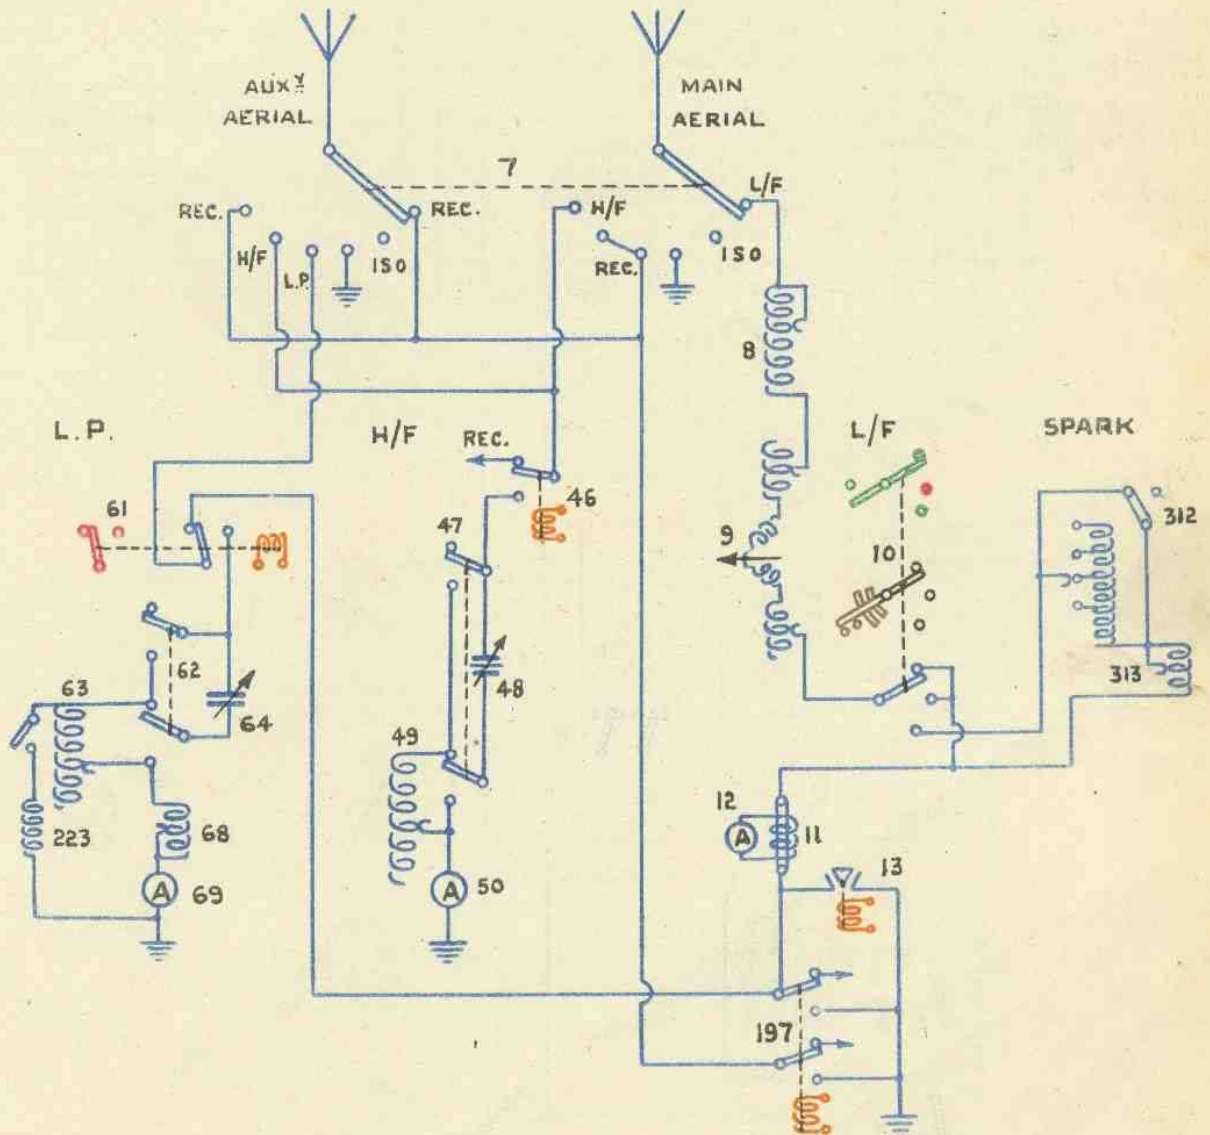

FIG. 5.
In main office sets of flotilla leaders, destroyers and netlayers, where two aerials, main and auxiliary, are used, the aerial C.O.S.(7) is a two pole, six position, switch with connections as shown in figure 5. The switch operates so that when one aerial is connected to a transmitter the other is connected to a receiver and both aerials are isolated or earthed together.